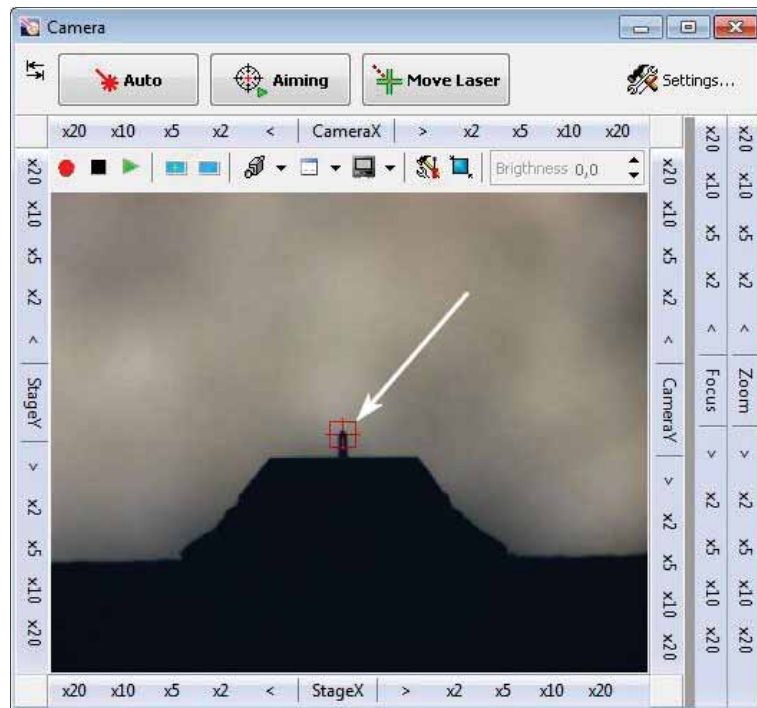

Fig. 7-6. **Camera** window.
4. Click the left mouse button on the image of the edge of the cantilever with the <Shift > key being pressed. This will display a cross-hair marker at the selected point (Fig. 7-6).